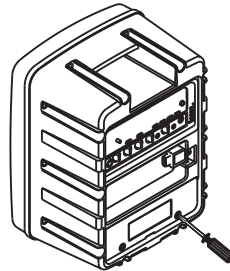

Fig. 35
- (E) Carefully slide the battery back into the compartment slot. Insert back the two screws back in place securely, Fig. 35.